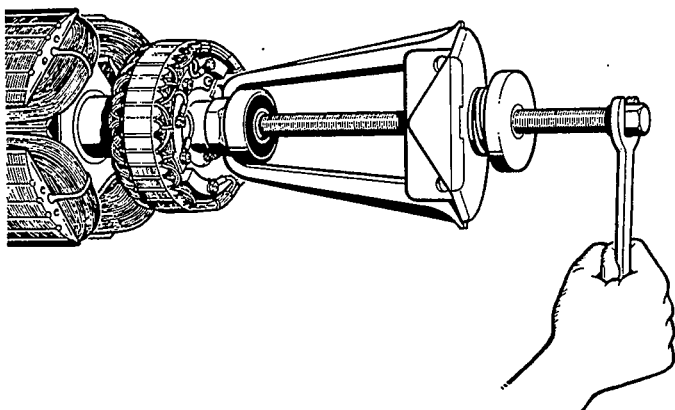

FIGURE 10. END BEARING REMOVAL
13. Use a gear puller to remove the end bearing from the rotor shaft (Figure 10).